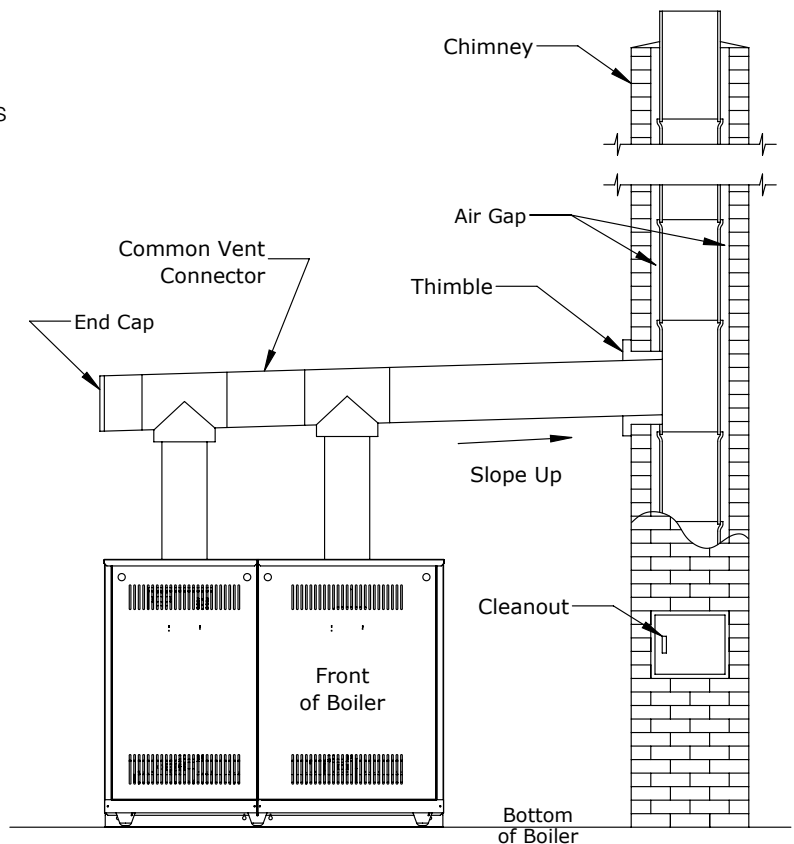

Figure 6-6: Typical Dual Draft Hood Installation STMX350 through STMX550
- B. Install vent piping from vent damper outlets to chimney. See Figure 6-6 for typical vent installation.